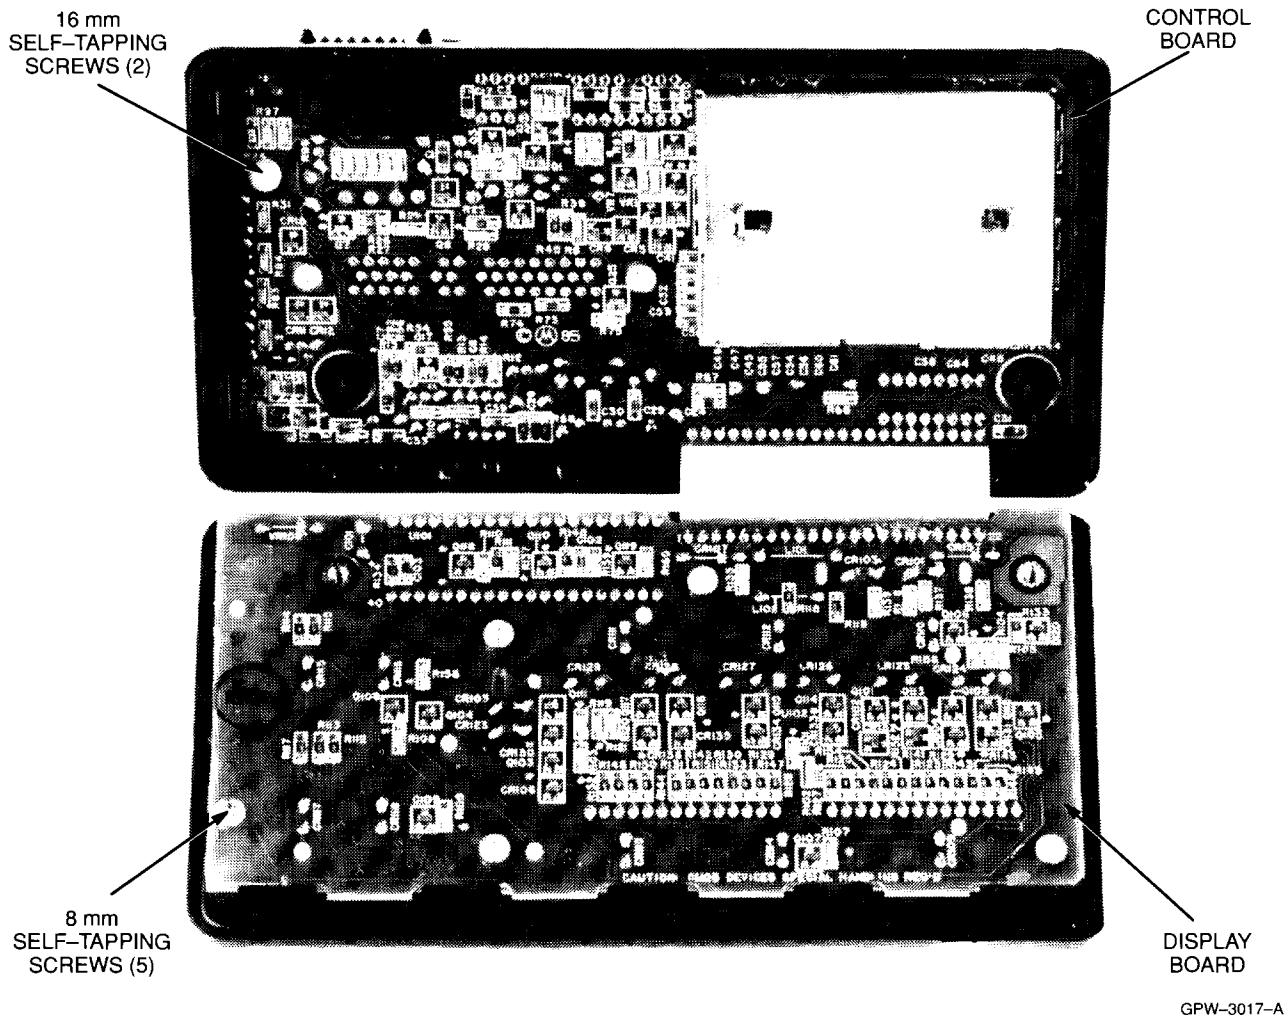

Figure 3. Disassembly of the Control Unit
3.1 DISASSEMBLY OF CONTROL UNIT (SEE FIGURE 3)